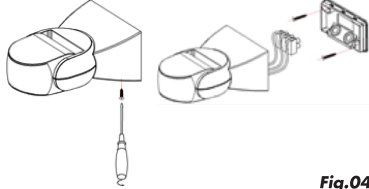

Fig.04
1. Loosen the screw and remove the bottom as shown below in Fig.04.